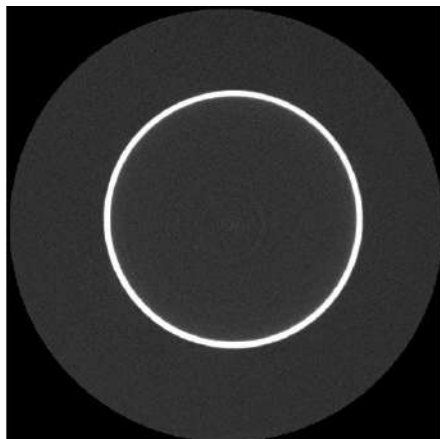

Figure 42
7. Scroll the slices: the image has to provide a continuous line as shown in *Figure 42*.